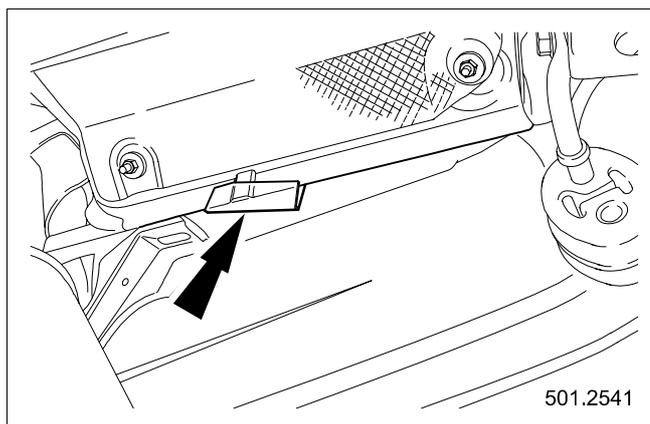

Fig. 21
- 16 Attach the debris deflector to the vehicle to shield the vent box drain hole. (See Fig. 21)